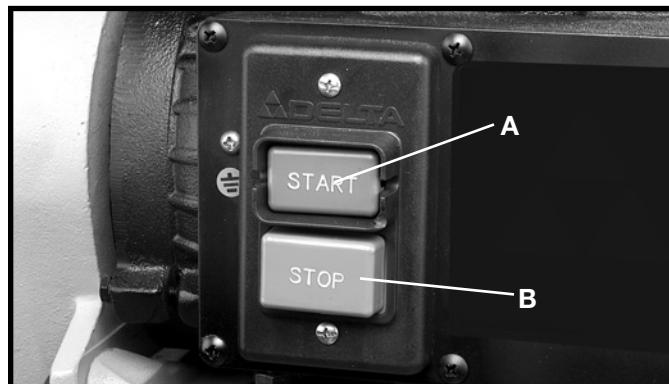

Fig. 18
1. The on/off switch is located on the front of the planer. To turn the machine “ON”, push the START button (A) Fig. 18.
2. To turn the machine “OFF”, push the STOP button (B) Fig. 18.